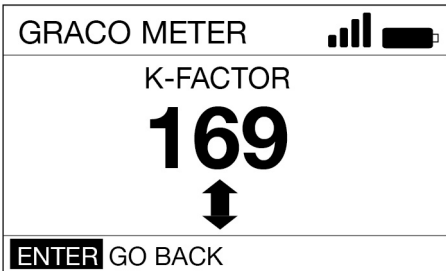

FIG. 26
- Note the current K-FACTOR is displayed. In the example shown in Fig. 26 the K-FACTOR is 169.